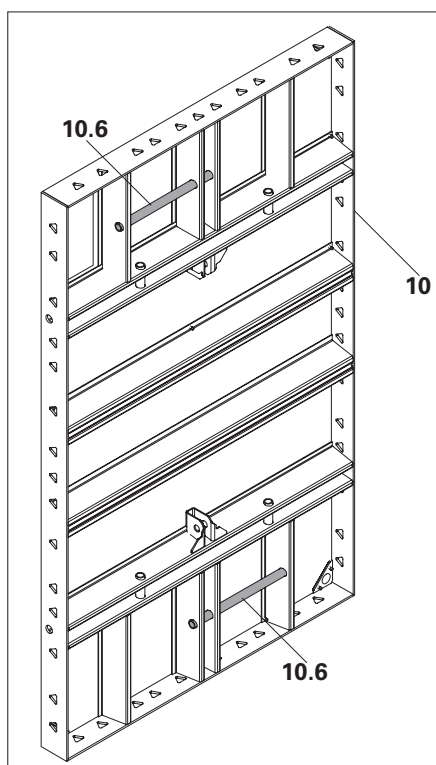

Fig. A2.02
For transporting HSA panels (10) without the use of a crane, the system is designed with integrated ergonomic handle (10.6) that ensures easy handling. (Fig. A2.02)